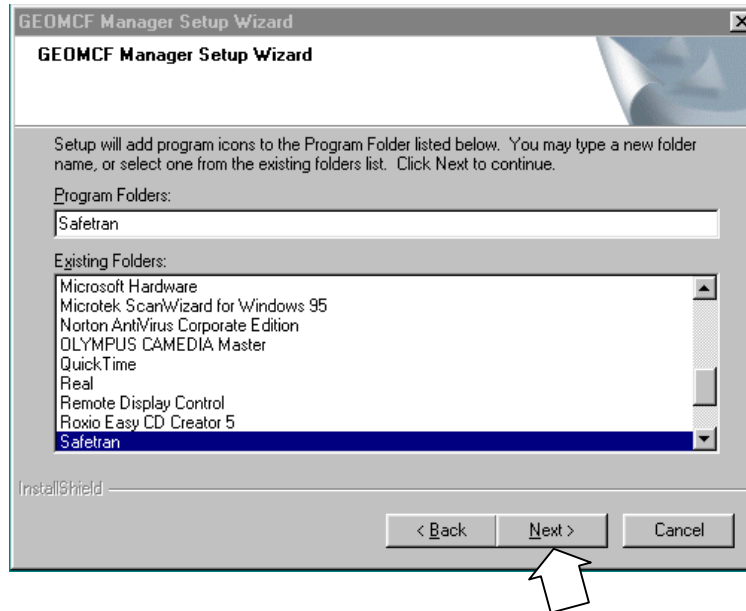

Figure 1-12
6. After the proper path to the GEO® Database is displayed in the **Path** box, click on **OK**. The Program Folder Selection window is displayed (figure 1-12).